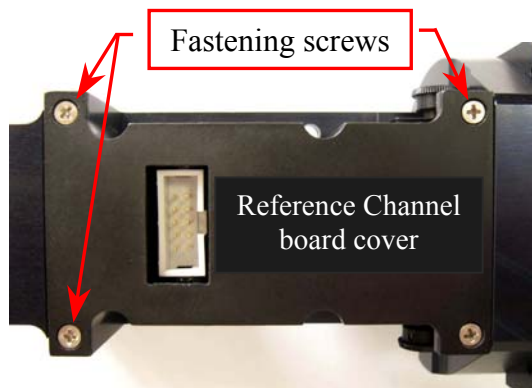

Fig. 70 – Fastening screws of the Reference Channel board cover
4. Unscrew the four fastening screws of the Reference Channel board cover (**Fig. 70**) and remove it from the Photometer.
10. Replace the Reference Channel board cover on its place and screw its four fastening screws (**Fig. 70**).